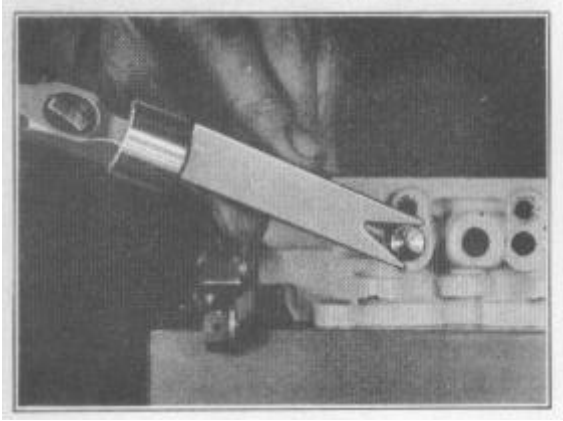

FIGURE 20
13. Remove both idle adjusting screws from flange assembly and idle port rivet plugs as in left hand view, Figure 20.